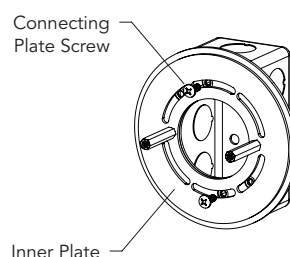

fig. 2
6. Reattach Inner plate using connecting screws making sure stand-offs are horizontal (as shown in Fig. 2).